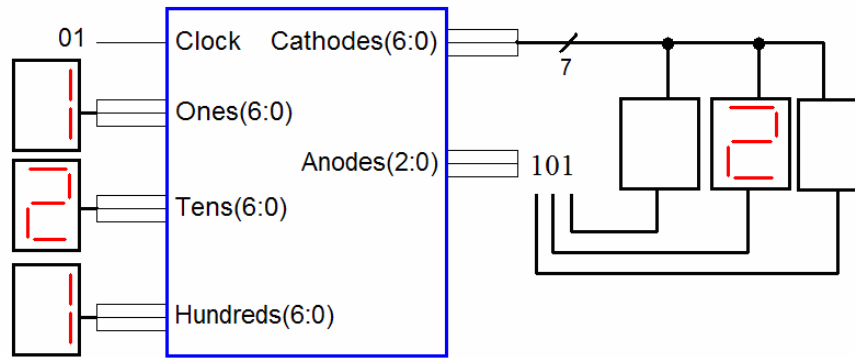

Figure 4: Block diagram of the switching circuit for the 7-segment displays.
6. Build the switching circuit (see Fig. 4). It should have as inputs the 7-segment display cathode signals for the ones, tens, and hundreds digits, as well as a two-bit clock signal. It should also have two outputs: one 7-bit signal for the cathodes and one 3-bit signal for the anodes. As the clock changes, the switch should alternate which signal is passed to the cathodes. At the same time, it should turn on the correct anode and turn off the rest. Do a simulation when you are done.